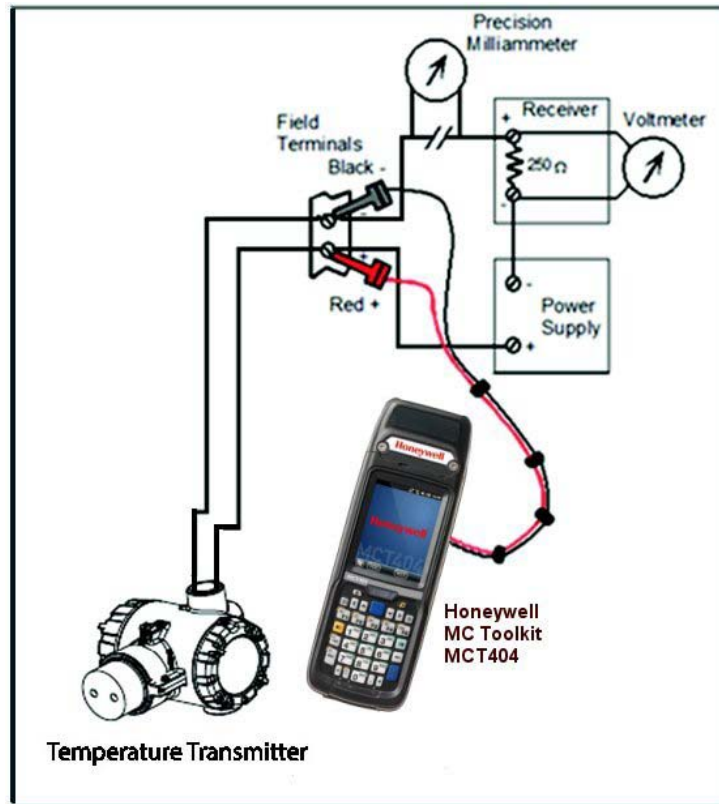

Figure 11 – Current Loop Test Connections
1. Refer to Figure 11 for test connections. Verify the integrity of electrical components in the output current loop.